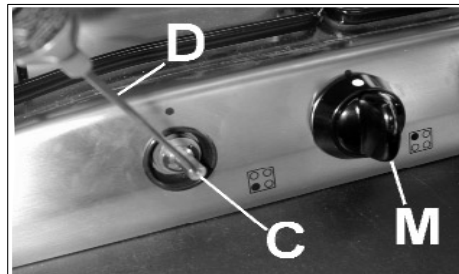

FIG. 15
- Remove knob “M” (fig. 15) of the tap, which is simply pressed on to its rod.
- Insert a small screwdriver “D” into hole “C” (fig. 15) and turn the throttle screw to the right or left until the burner flame has been adequately regulated to the “Reduced rate” position.